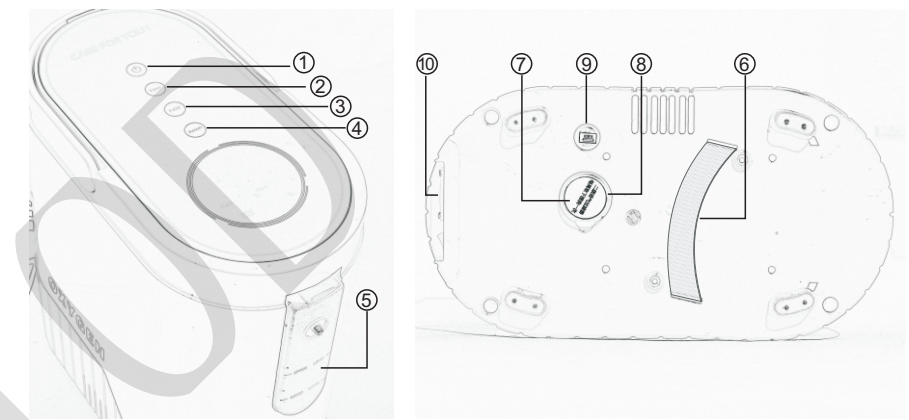

Fig. 2 Outline drawing of oxygen concentrator
Our oxygen concentrator mainly consists of principal machine, humidifier bottle, as shown in Fig. 2
- ① **Remove the fixed belt.**(as shown in Fig. 2 ⑥)
- ② **Fill water to humidifier bottle:** Take off the bottle. Open the silicone cover, Add proper amount of pure water to the bottle, the water level shall be between the maximum (MAX) and minimum (MIN) water lines.(as shown in Fig. 2 ⑤)
- ③ **Power on:** plug in the power cord, press the power switch. The oxygen concentrator enters into the ready-to-start state.
- ④ **Click“On/Off” button** , the machine begin to produce oxygen.
- ⑤ **Timing:** Press “Timing” button, oxygen concentrator will enter into timing state, and the timing is 30 minutes , for each press of "Timing" button, preset time will be increased by 30 minutes (maximum preset time is 120 minutes); users can preset the time for oxygen concentration as required.
- ⑥ **Flow Rate:** The user can click” Flow ” to +- flow. Flow rate and purity will show in the LCD display.
- ⑦ **Anion:** Click“Anion”button, the anion function starts to work. It can improve the environment around you.(as shown in Fig. 2 ④)
- ⑧ **Wear oxygen tube:** Insert the intake end of absorbing oxygen tube onto the oxygen outlet, then set the absorbing oxygen tube over patient’s ears, insert the nasal tube into patient’s nostrils to absorb oxygen.
- ⑨ Once the oxygen therapy finished, click “On/Off” button  to turn off the machine(The machine will stop working, if you preset using time). press the switch to shut down the power, please also un-plug the power supply at the same time.